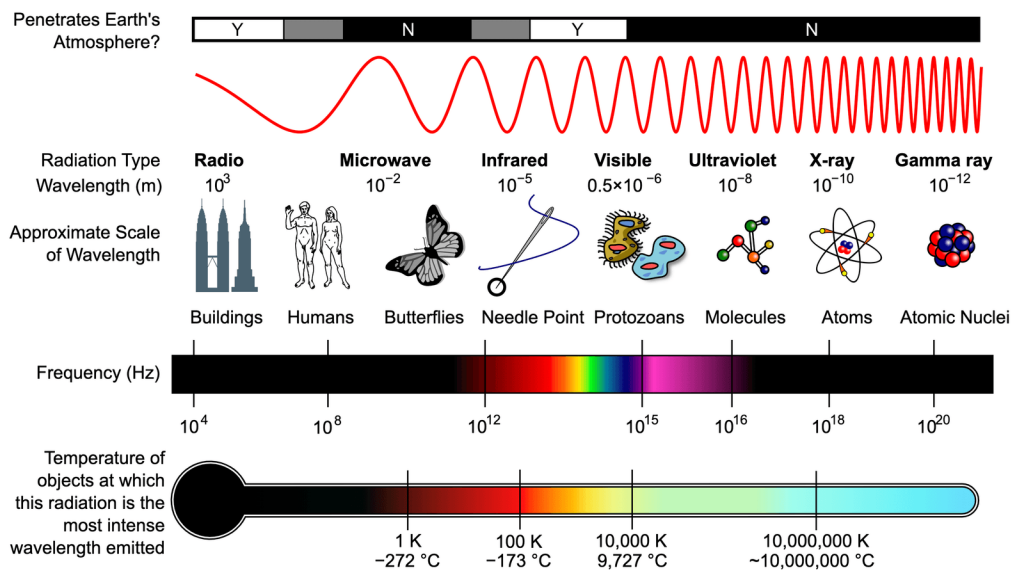

Figure 16.1: The electromagnetic spectrum. Inductiveload, NASA, CC BY-SA 3.0, via Wikimedia Commons
We are constantly being exposed to radiation - in fact, the light that you see, and the radiowaves that allow you to text your friends and family with your cell phone are all forms of radiation. This type of long-wavelength radiation is low frequency and low energy and cannot damage your cells (or microorganisms). However, some forms of radiation that have shorter wavelengths are higher energy and can be very damaging to cells. Ultraviolet (UV) light can cause serious burns, and lower wavelength radiation such as X-rays or gamma-rays can ionize molecules (ionizing radiation) resulting in massive cellular damage and death (Figure 16.1).